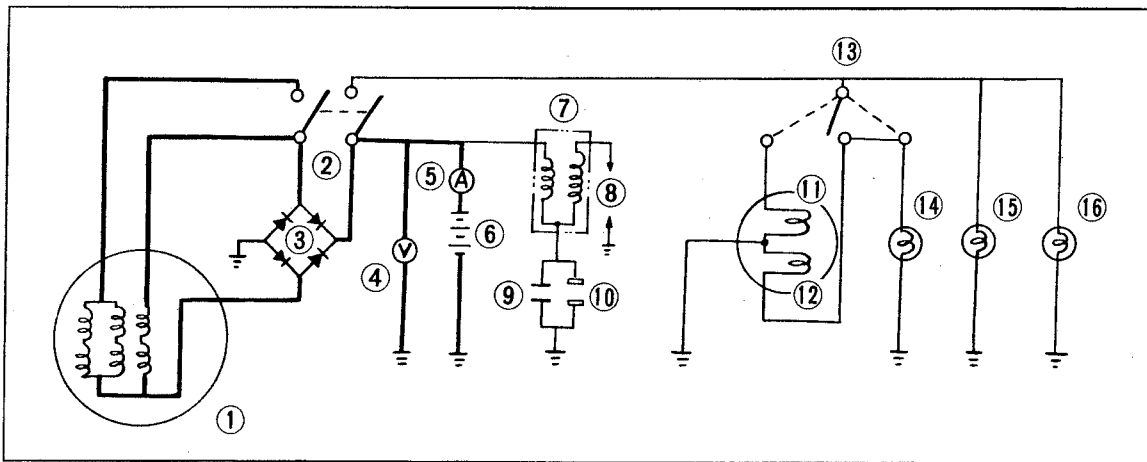

**Fig. 150 Charging test**
- 4) Start the engine and perform the following two tests in both the day and night operation mode. (Fig. 150)